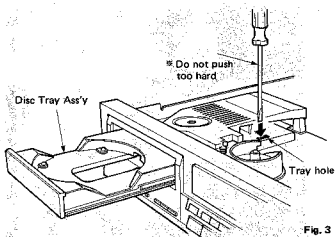

Fig. 3
b. Push the hook on the DM unit with a slotted screwdriver or the like inserted into the tray hole in Fig. 3, and the disc tray ass'y can be removed.